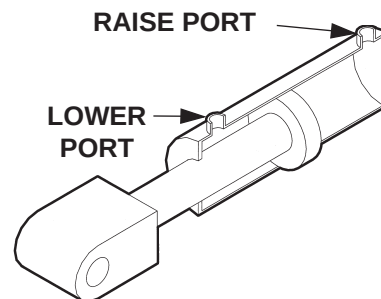

FIG. 44-2
2. Check the Hydraulic Cylinder. With the Platform on the ground, remove the hydraulic line from the Lower Port of the Cylinder (**FIG. 44-2**). Raise the Platform even with the bed. Allow pump motor to run two seconds more while you watch for hydraulic fluid at the Lower Port. A few drops of hydraulic fluid escaping the port is normal; however, if it streams out, Piston Seals are worn. Replace Seals.